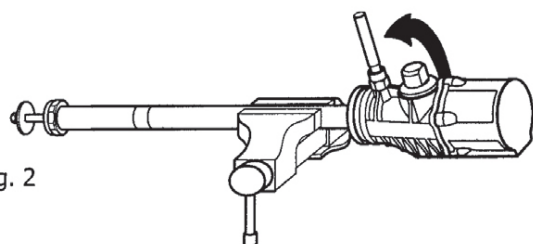

Fig. 2
3. Unscrew the air motor body from the suction tube using a threaded rod (fig. 2), and pull it out until it stops. The union nut should be visible.